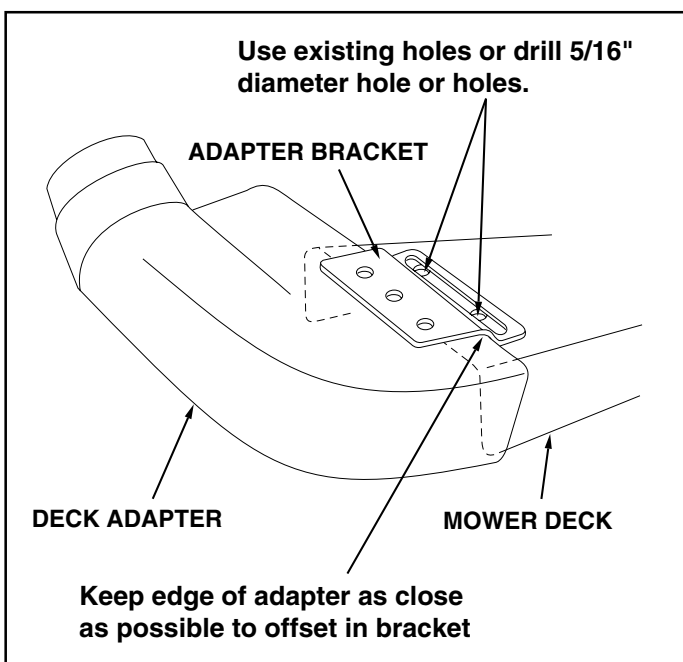

FIGURE 24
5. Holding the adapter bracket and the deck adapter together, position the deck adapter on the mower deck. Keeping the edge of deck adapter as close as possible to the offset in the adapter bracket, see if the slot in the adapter bracket can be aligned with one or two of the deflector holes in your mower deck's discharge opening. If the bracket can not be located correctly using existing holes, it will be necessary to drill one or two 5/16" diameter holes in the deck. See figure 24.